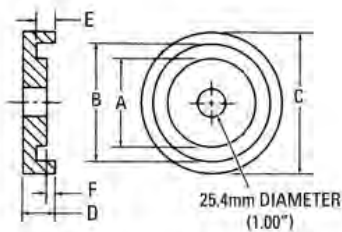

Fig. 1 -- Dimensions to Fabricate Plates
- Made from SAE 1020 Steel according to Figure 1; dimensions given in chart along with part number of bearing they are used on